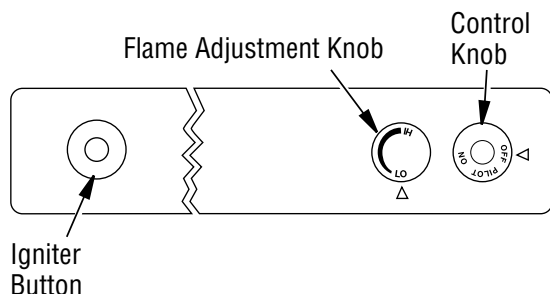

Figure 43 - Control Knob and Igniter Button Location (Shown as Supplied, No Control Options)
4. Press in and turn control knob clockwise ↻ to the OFF position (see **Figure 43**).
5. Wait five (5) minutes to clear out any gas. Then smell for gas, including near the floor. If you smell gas, STOP! Follow "B" in the safety information, **Page 19**. If you don't smell gas, go to the next step.
6. Press in and turn control knob counterclockwise ↺ to the PILOT position. Press in control knob for five (5) seconds (see **Figure 43**).